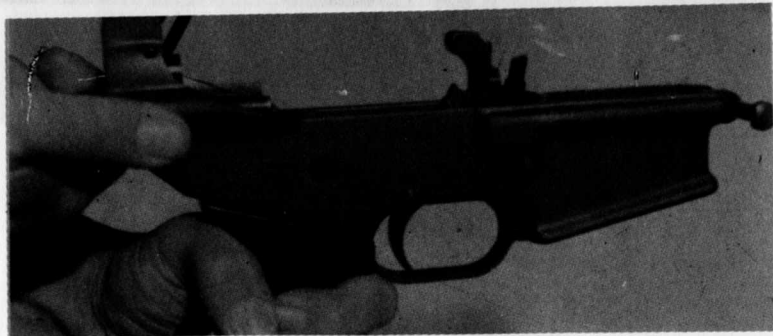

Fig. 6
- To remove the stock, depress the stock latch button, keep the pressure on button and pull the stock completely out. (Fig. 6)